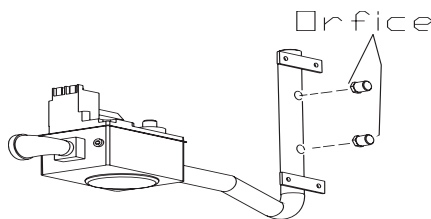

Figure 2. Typical view
8. Remove natural gas orifices from manifold. See Figure 2.